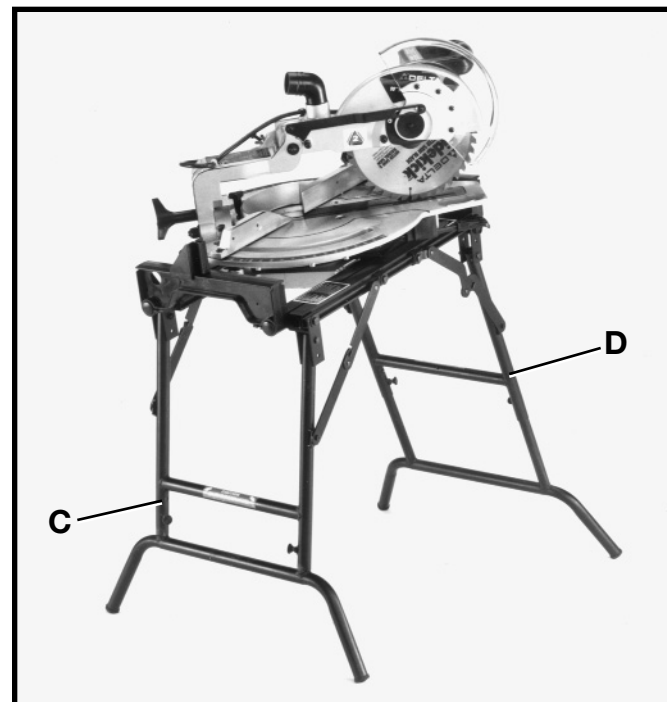

Fig. 56
3. Fig. 56, illustrates the left leg (C) lowered. Lower the right leg (D) in the same manner.